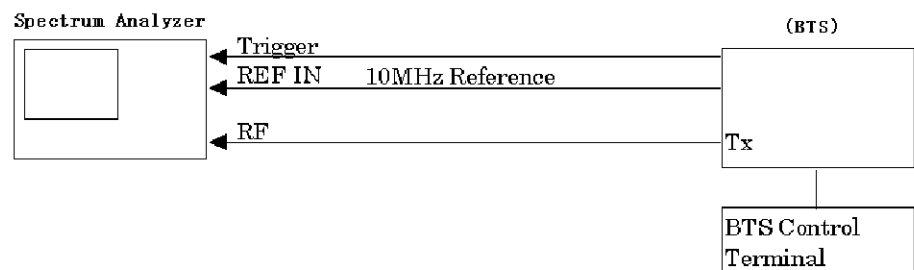

Figure 2-10 Setup for the measurement of the W-CDMA signal
1. Connect the unit under test as shown in Figure 2-10.